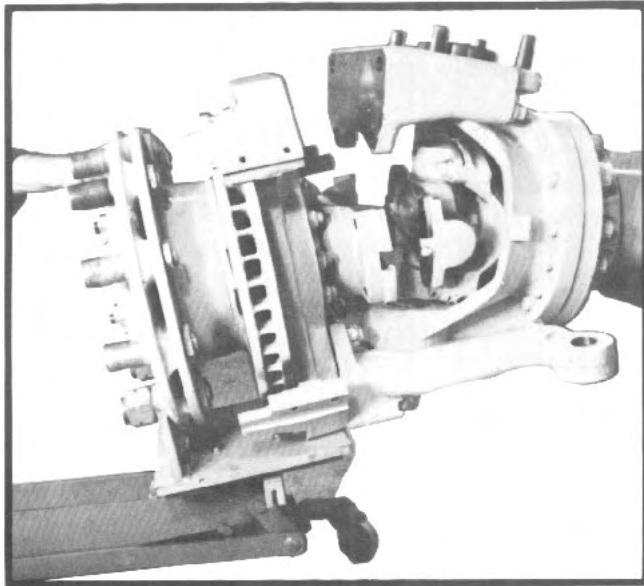

Fig. 14
8. Withdraw and lower simultaneously, entire assembly from suspension yoke. Use care to avoid damage to the lower kingpin bracket as it drops free of race (See fig. 14). Use a chain hoist and remove outer section from transmission jack.